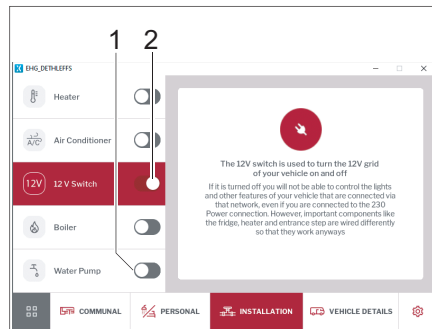

Fig. 267 12 V and water pump
- Use the switch (Fig. 267,2) to switch the vehicle's 12 V supply on and off. A note will appear indicating which consumers are affected by this.
- Use the switch to turn the water pump (Fig. 267,1) on or off. Also see Chapter 9.14.5.